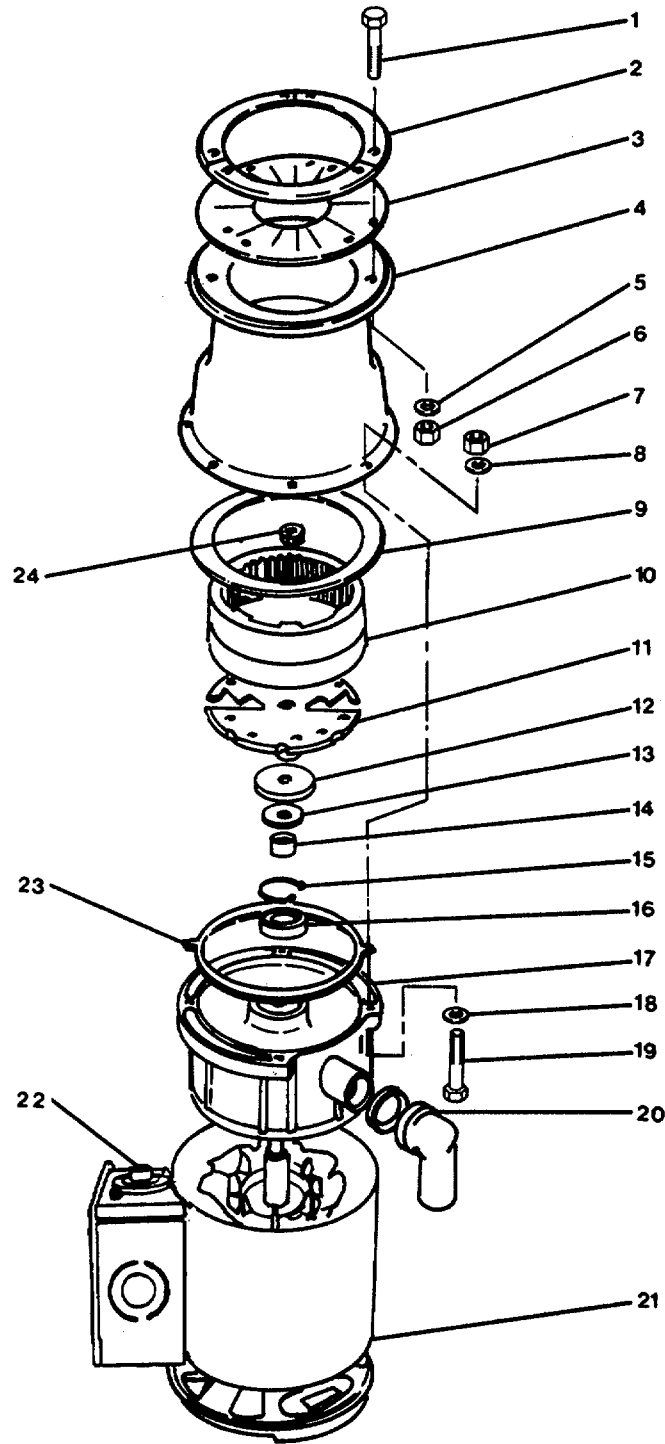

FIGURE 3-80. Repair Garbage Disposal.
- c. Install motor (21) with machine screw (19).
- d. Install motor harness (29).
- e. Install motor mount (22), fan (20), fan guard (14), with machine screw (13).
- f. Install junction box (28) and terminal block (9) with whiz nut (10) and machine screw (2).
- g. Install strain relief (6), snap bushing (7), and harness lead (5).
- h. Install junction block cover (11) with machine screws (12).
- i. Install coil assembly (31) and hanger (3) with machine screws (4).
- j. Install bottom housing (18) with tinnerman (30) and machine screw (33).
- k. Install lanyard (16) with captive wing screw (15) and machine screw (17).
**3-82. Repair Garbage Disposal. (Figure 3-80)****This task covers:****a. Disassembly****b. Repair****c. Assembly**INITIAL SETUP:Tools